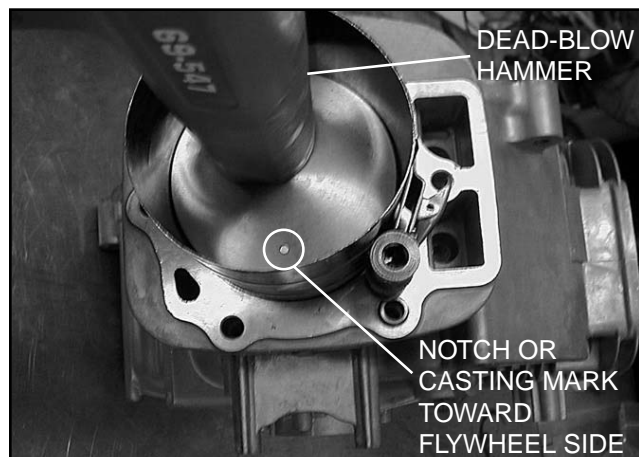

Figure 13-3. Installing Piston And Connecting Rod
3. Install #1 piston with notch or casting mark towards flywheel side, Figure 13-3.